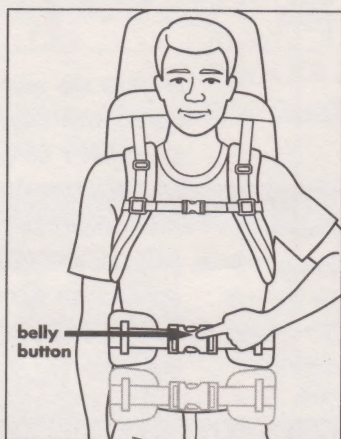

Figure 3
2. **NEXT** put the pack on and tighten the waistbelt. Make sure you place the waistbelt in the proper location (Figures 3 & 4).
It is recommended to wear the belt on hip bones, just under the rib cage. If you still prefer to wear the belt low, add one to two inches to your torso length measurement. Figure 3 shows both the preferred placement of the waistbelt and an example of a belt worn low. The low position is not recommended. Once positioned correctly, tighten the belt to prevent it from sliding. (A good rule of thumb is to have the belt buckle approximately over your belly button.)